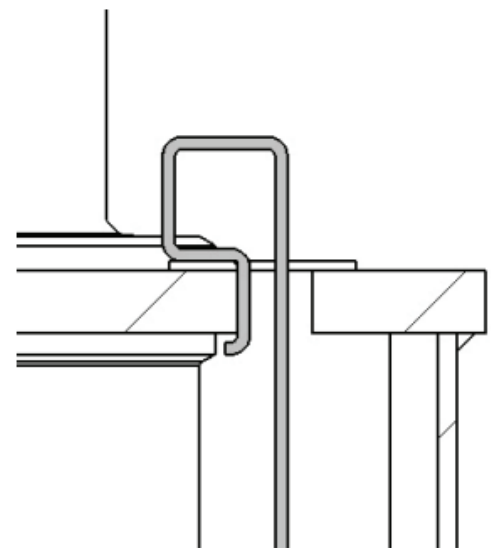

Figure 10
6. Re-insert the dipstick and clip down (indicated in Figure 10)
9. Once oil level is correct, replace dipstick and securely fasten. (indicated in Figure 10)
5. Once oil level is correct, replace dipstick and clip down. (indicated in Figure 10)